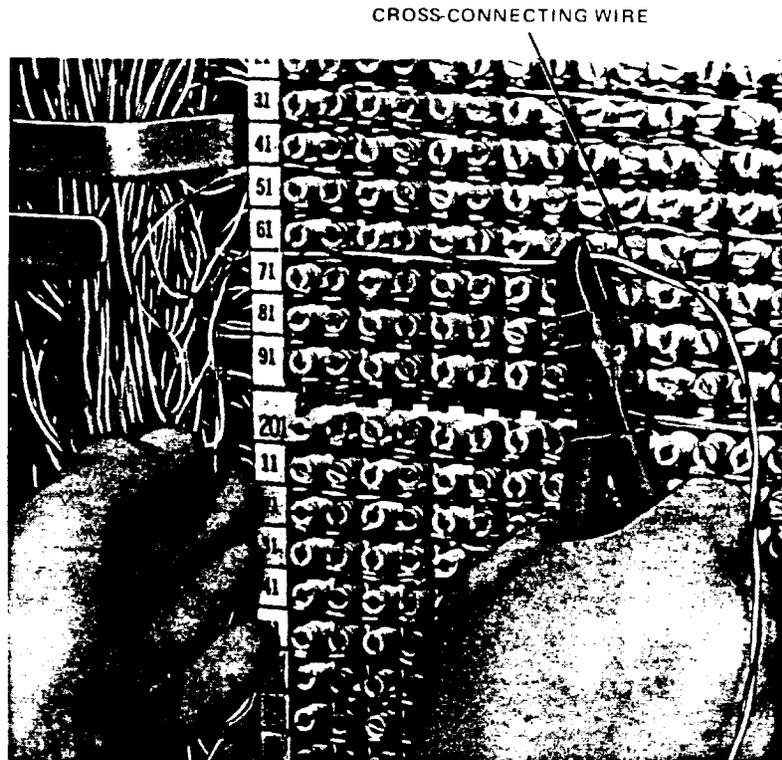

Figure 16. Cutting Cross-Connecting Wire
- (1) Place wire through the wiring slot, form a finger loop, and dress wires to the rear of trough. ***These finger loops allow a sufficient amount of slack for movement of the cross-connecting wire for tracing.***
4.05 Cut and terminate cross-connecting wire as follows (Figure 16):